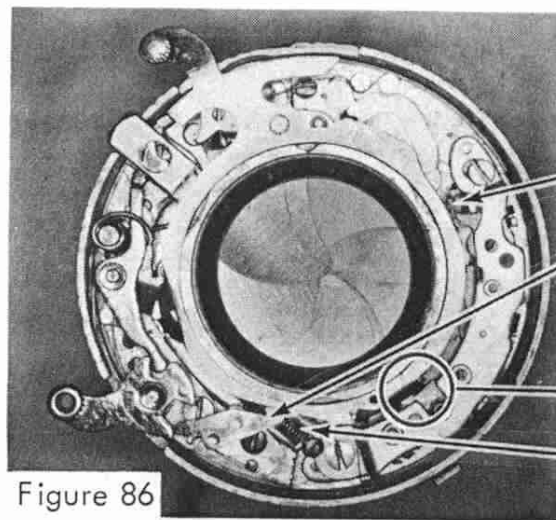

Figure 86
**CAUTION!** DO NOT attempt to set the shutter at this time with the speed cam removed. Orient your shutter once again with the nameplate locking cam cutout positioned at 12 o'clock. Locate and identify the various parts of the shutter which have already been described, Fig. 86.